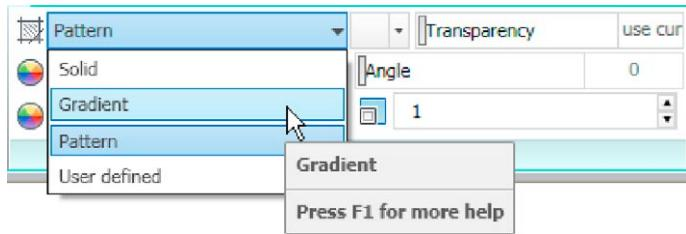
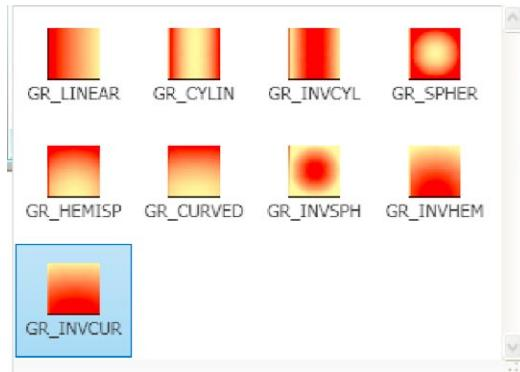

Fig. 8.13 Selecting Gradient in the Hatch Creation/Properties panel
Fig. 8.14 The Gradient patterns in the Hatch Creation/Pattern panel
2. Click **Gradient** in the drop-down menu in the **Hatch Creation/Properties** panel (Fig. 8.13). In the **Hatch Creation/Pattern** panel which then appears, pick one of the gradient choices (Fig. 8.14), followed by a click in a single area of one of the rectangles in the left-hand drawing, followed by a right-click.